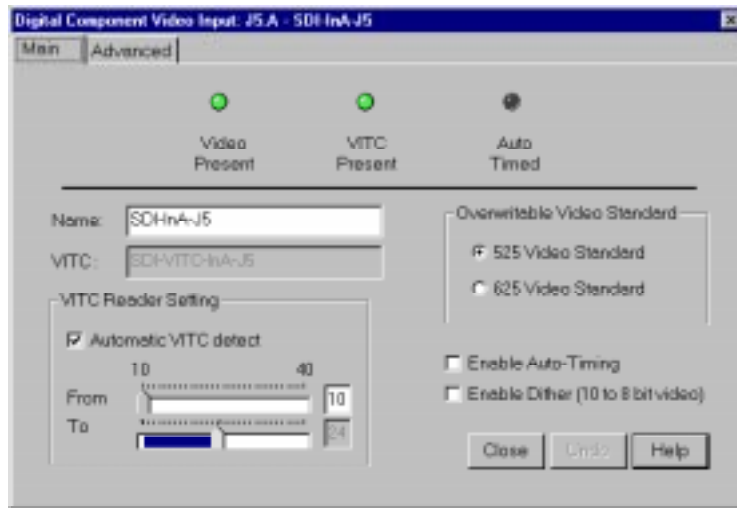

Figure 19. Serial Digital Component Video Input dialog box
1. Select **Video Input** on the configuration tree, and then click or double-click a digital component input from the list, such as *SDI-InA-J13*. The Serial Digital Component Video Input dialog box appears (Figure 19).